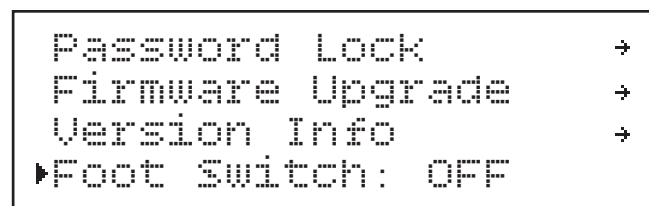

Figure 108. Foot switch set to OFF.
2. Press spindle speed dial to turn foot switch **OFF**, as shown in **Figure 108**.